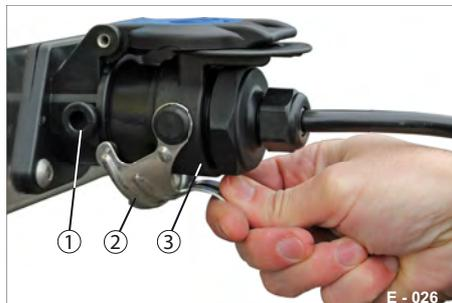
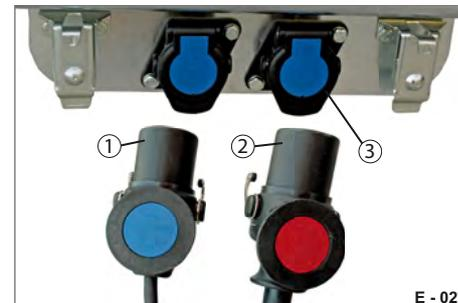

Fig. 9 Unlocking the plug
Fig. 10 Park position on tube drawbar
- ▶ Pull on the cliplock (Fig. 9/2).
- ▶ Pull the plug (Fig. 9/3) from the parking socket (Fig. 10/3) - do not pull on the cable.
- ▶ Connect the electrical system plug (Fig. 10/2) to the towing vehicle.